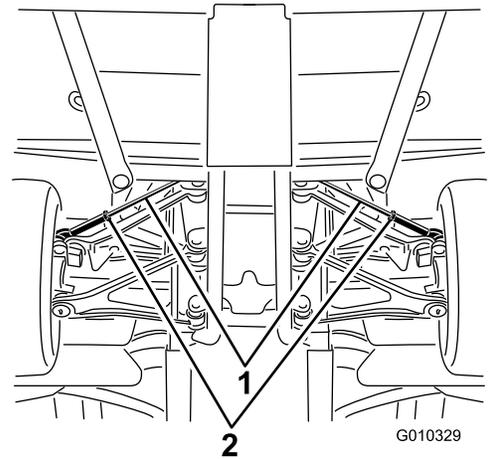

Figure 66
- A. Loosen the jam nut at the center of the tie rod (Figure 66).